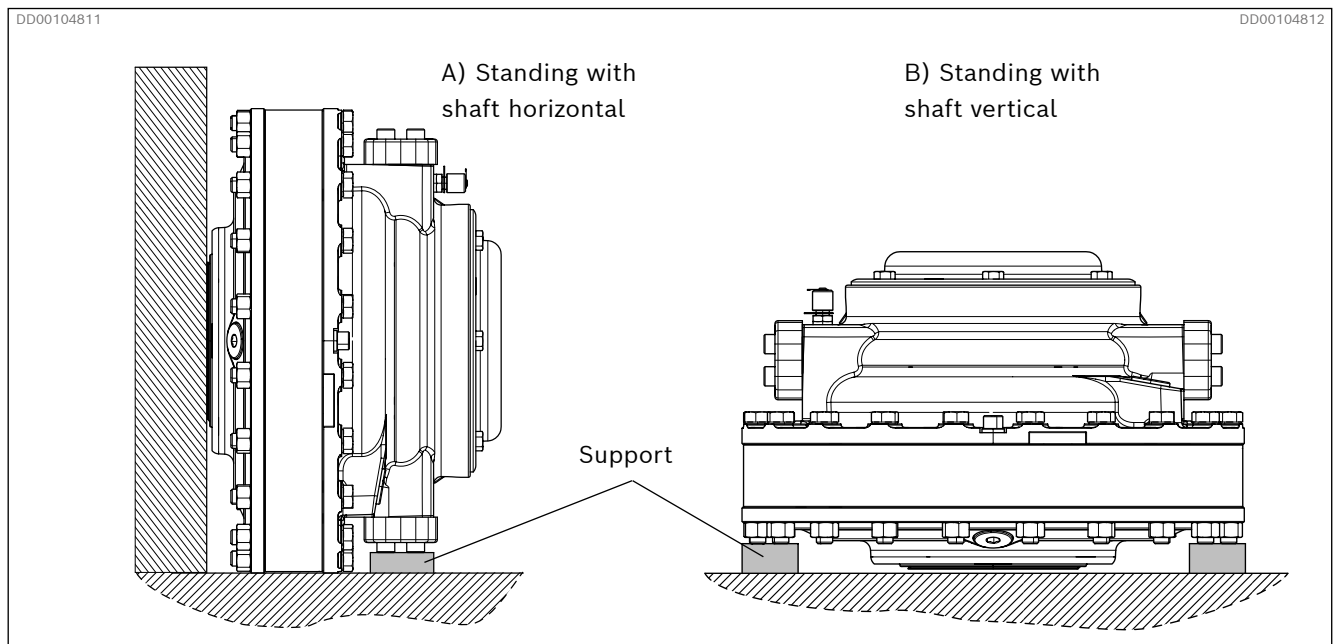

Fig. 11: Example, CA motor standing on a flat surface
- ▶ It is also advisable to provide supports at the mounting surface of the motor, see Fig. 11.
When the motor is placed on a flat surface such as a floor, it must stand either on its outer diameter or on the suitably protected end face of the hollow shaft. It is also advisable to provide supports shown in Fig. 11.
1. Place the motor as shown in *Fig. 11, B*) Standing with shaft vertical.
5. Position the motor as shown in *Fig. 11, A*) Standing with shaft horizontal or alt. B) Standing with shaft vertical.